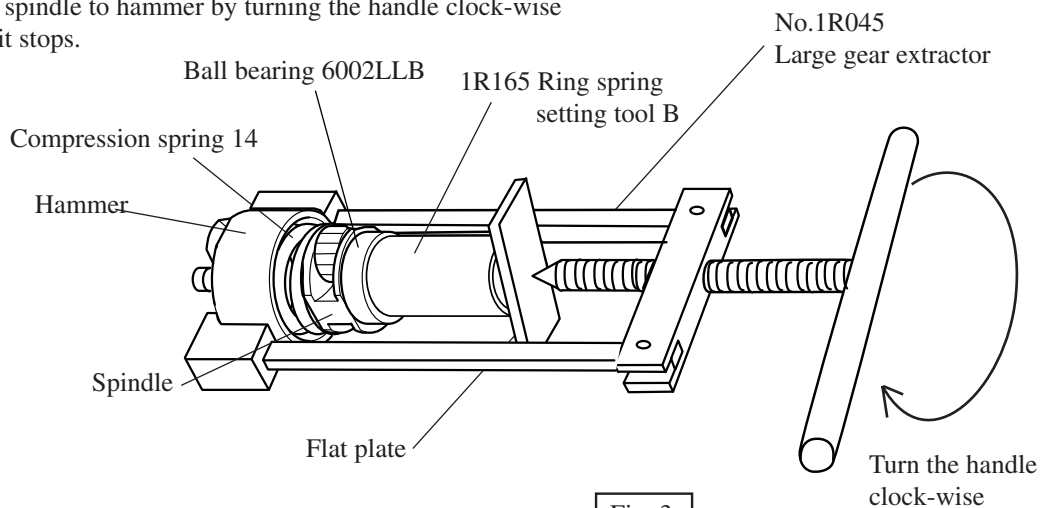

Fig. 3
(1) Grip the hammer section with large gear extractor No.1R045 as illustrated in Fig. 3.